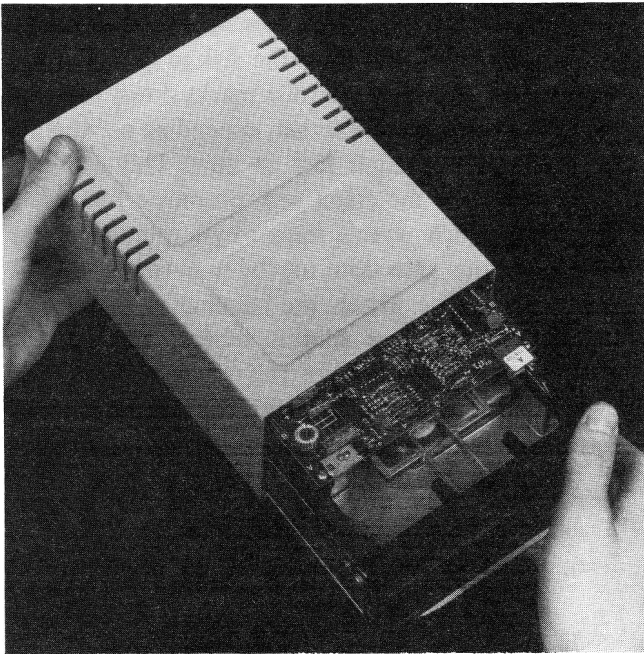

Fig. 8-19. Gently slide the drive cover housing back off the drive mechanism.
7. Gently slide the drive cover housing backwards off the drive mechanism as shown in Fig. 8-19. The cover fits snugly so you may have to wiggle it gently to slide it off.